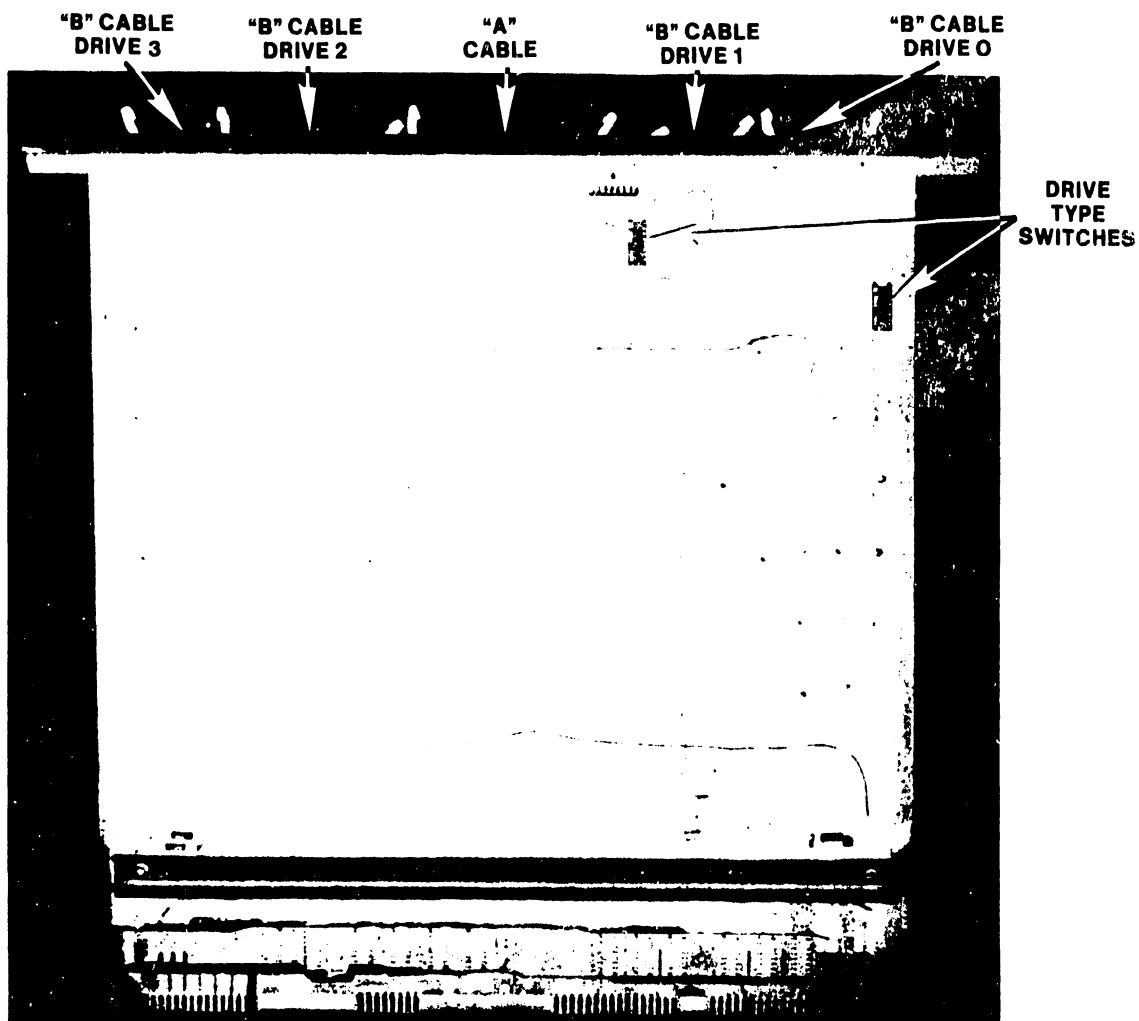

Figure 5-22. 22V28 Large Disk Drive IOP
2. Remove all connectors from the top of the 22V28 Large or 22V88 Very Large Disk IOP assembly (figures 5-22 and 5-23) in IOP slot #0 of the Motherboard. Note all the connector positions for later reassembly. (Also note that there are four versions of the 22V88 Very Large Disk IOP; 1-port, 2-port, 3-port, and 4-port. Refer to table 5-3.)
4. Check the device type switches (figure 5-22 and 5-24, and table 5-4) for the type of drives connected to a 22V28 IOP. (Refer to step 9 for the 22V88 IOP device type switches.)